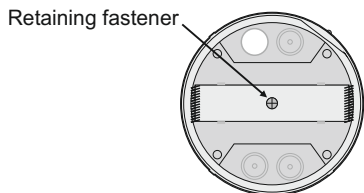

Figure 5
Step 2. Unfasten the retaining screw (Figure 5) and detach the part for suspended ceiling installation.